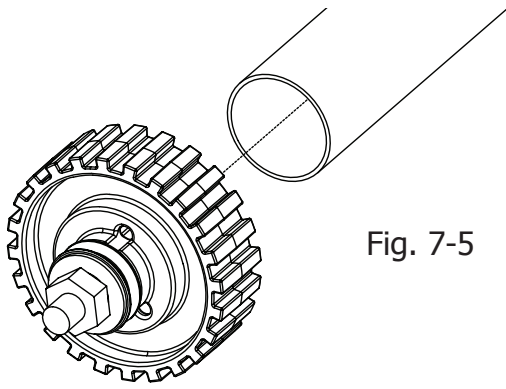
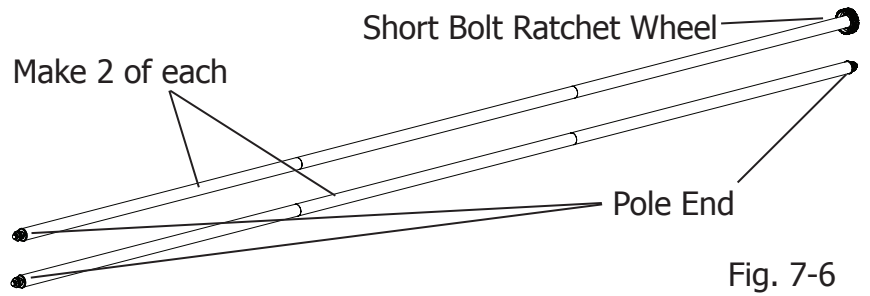

Fig. 7-5
Fig. 7-6
7-9: Now attach remaining pole ends (2) and short bolt ratchet wheel assemblies (2) to the opposite ends of four pole assemblies. To attach your ratchet assemblies, follow **Steps 7-6 and 7-7** and see Fig. 7-5. Proceed until your completed poles look like Fig. 7-6 above. Two poles will have a Pole End on each end. Two poles will have one Pole End and one Short Bolt Ratchet Wheel on each end.